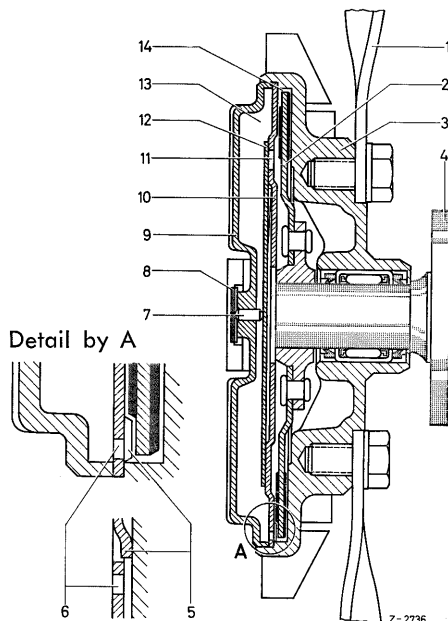

Fig. 33 Viscosity fan coupling
Bimetallic strip (8) fitted to the front side is extremely sensitive to mechanical damages and should be dismantled only in exceptional cases. Care must be taken that thrust pin (7) does not fall out and that the bimetallic strip is re-fitted with the inscription uppermost (see fig. 33).